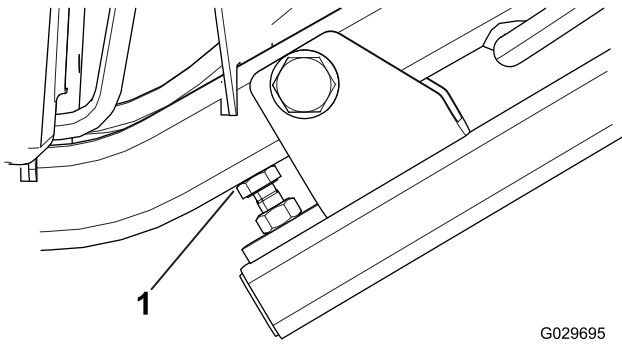

Figure 2
4. Adjust the bumper so that it is parallel with the frame, raise the adjustment bolt until it contacts the frame, and secure it with the jam nut (Figure 2).